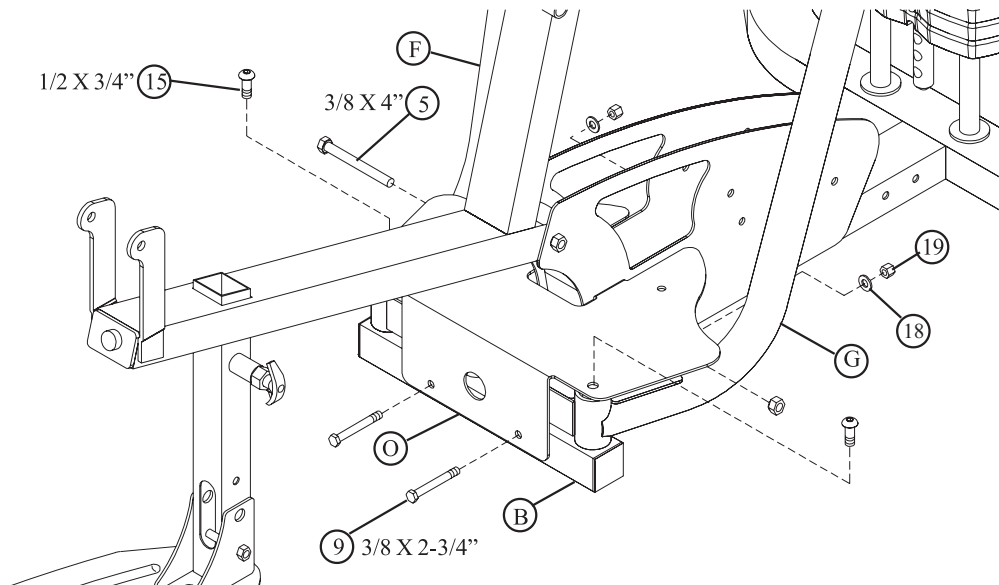

FIGURE 8
- SECURELY assemble the PEC PLATE (O) to the BASE (B) using two 3/8 X 2-3/4" BOLTS (9), one 3/8 X 4" BOLT (5), two 3/8" WASHERS (18) and three 3/8" SILVER LOCK NUTS (19) as shown in FIGURE 8.
- SECURELY assemble the LEFT (F) and RIGHT (G) PEC FLY ARMS to the BASE (B) using two 1/2 X 3/4" BUTTON HEAD BOLTS (15) as shown in FIGURE 8. **(Note: Tighten this connection enough to remove excess play yet allow the PEC FLY ARMS freely.)**